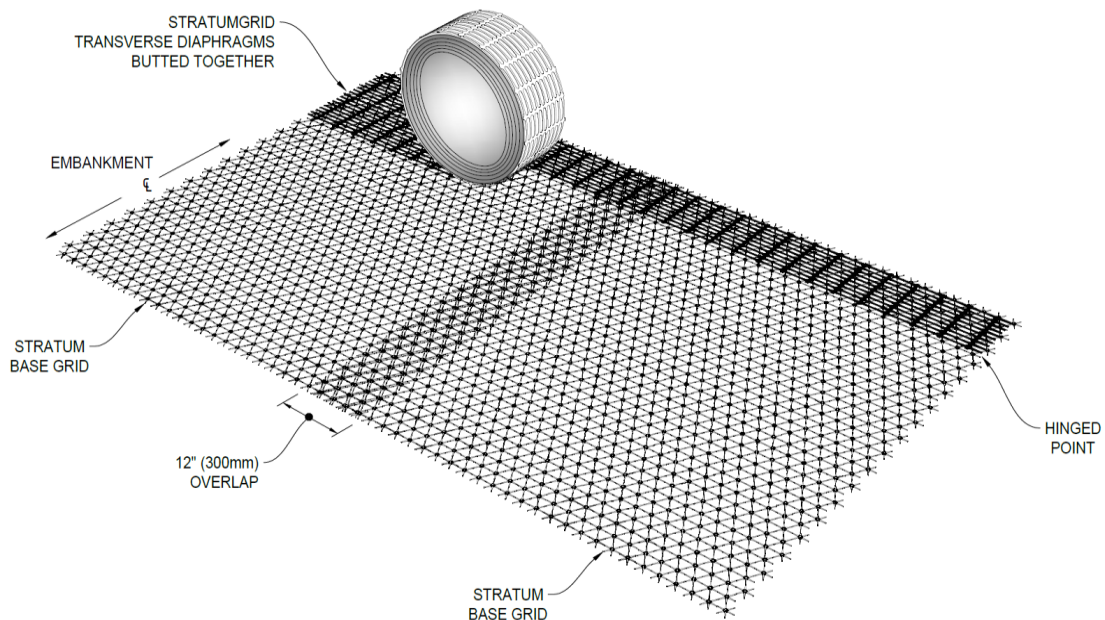

Figure 1
1. Roll out the specified Tensar base TriAx geogrid parallel to the embankment centerline. Provide a 12 in. (300mm) minimum overlap between adjacent rolls (Figure 1).
2. Roll out the specified Tensar Stratum geogrid transverse diaphragms side by side across the width of the embankment and over the base geogrid at right angles to the embankment centreline (Figure 1). Joints should be made with polymer bodkin joint bars where they are required to join successive lengths of diaphragms.